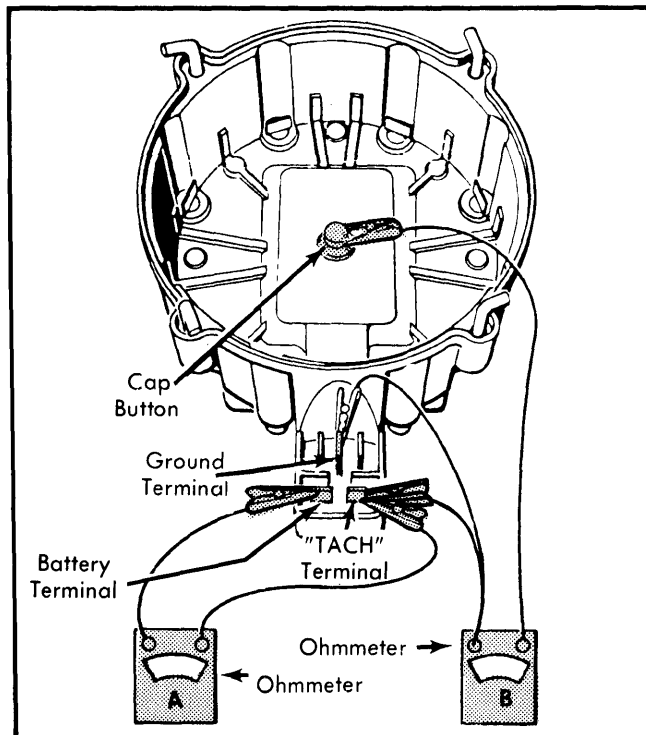

Fig. 6 Distributor Cap and Coil Testing Connections for Delco-Remy HEI Distributor
2) To test coil primary resistance, connect one ohmmeter lead to battery terminal on distributor cap. See Fig. 6. Connect other lead to tach terminal of distributor cap. Ohmmeter reading should be 0.4-1.0 ohm. Connect ohmmeter leads to tach terminal and ground. Reading should be infinity. If either reading is not to specifications, replace ignition coil.
3) To test coil secondary resistance, connect one ohmmeter lead to coil secondary contact (cap button). See Fig. 6. Connect other lead to tach terminal. Ohmmeter reading should be infinity.